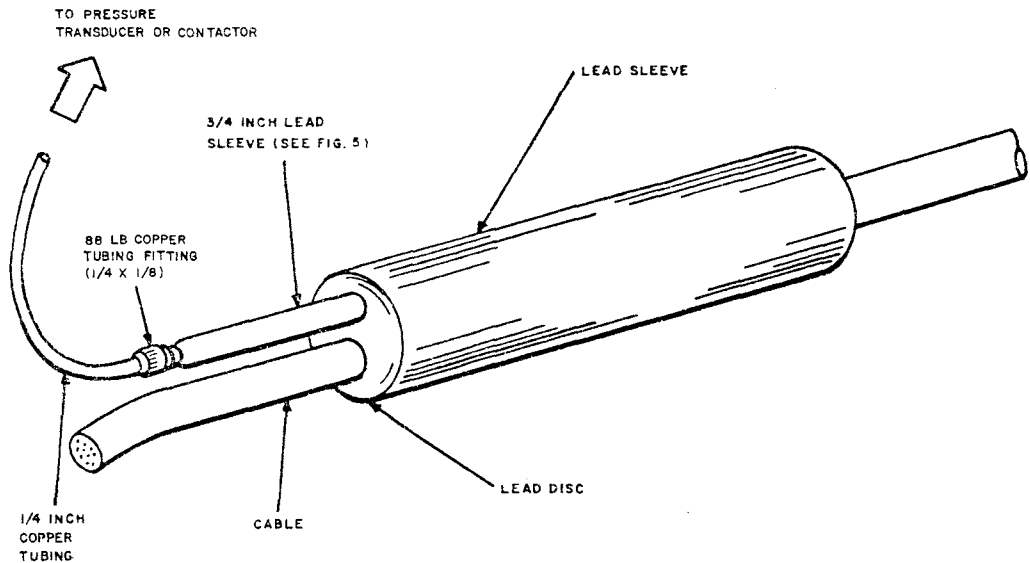

Fig. 6—Installation at Lead Splice Sleeve Complete
(4) Apply teflon pipe sealing tape to threads of the copper tubing fitting (88-LB) and screw the fitting into the C pressure flange.
(5) Pass the four conductors from the contactor through the fitting and sleeve and secure the copper tubing to the fitting.
- (6) Place the 3/4-inch lead sleeve into the end plate of the lead sleeve which will cover the splice opening (see Fig. 6).
- (7) Splice the four conductors from the contactor to the four conductors previously installed.
- (8) Close the lead sleeve in the standard manner.